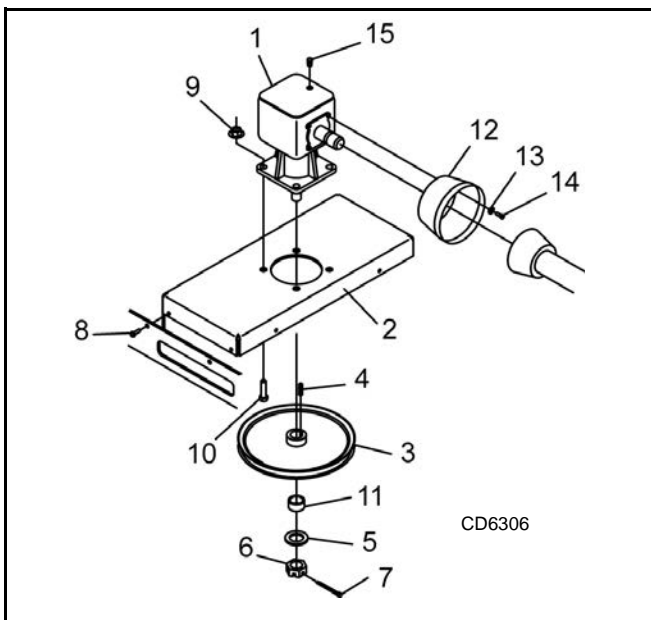

Figure 15. Gearbox Stand Assembly
Vertical Shaft Seal Replacement (Figure 15)
2. Remove vent plug (15), Figure 15, and siphon gear lube from housing through this opening.
3. Remove gearbox stand (2) from mower deck by removing four hex screws (8).
4. Remove four cap screws (14) and washers (13) and remove shield (12) from gearbox.
5. Remove castle nut (6) and hardware from output shaft of gearbox.
6. Remove sheave (3) from gearbox.
7. Remove four bolts (10) that attach gearbox to gearbox stand and remove gearbox.